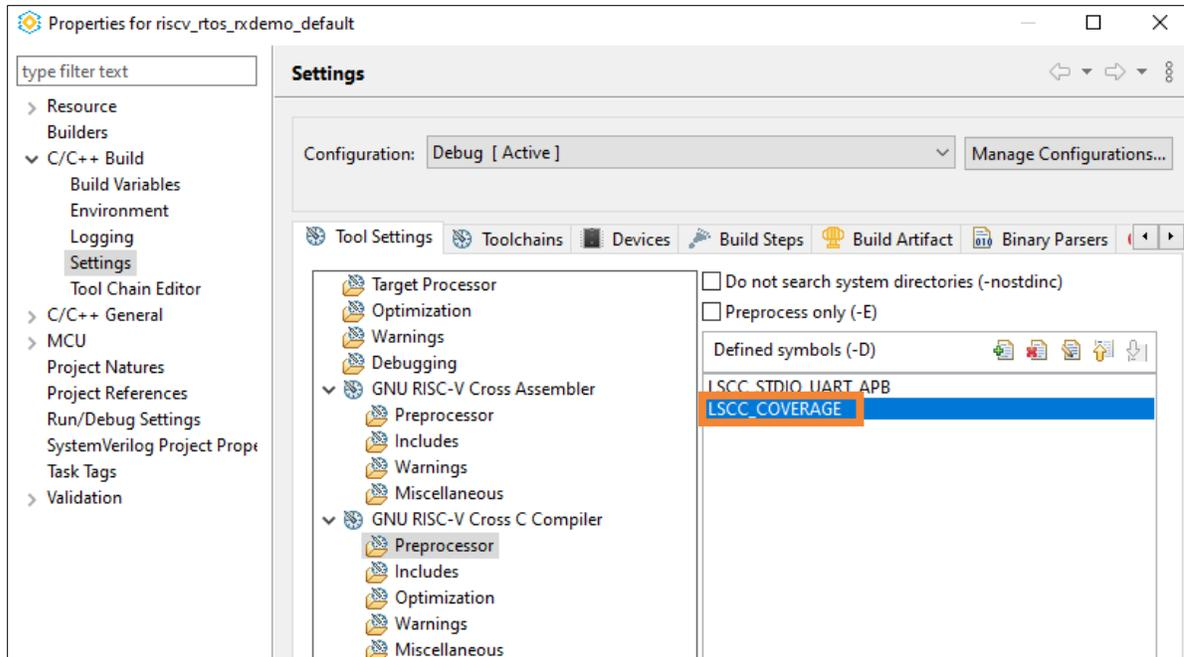

Figure 6.10. LSCC_COVERAGE Symbol
3. Select **GNU RISC-V Cross C Compiler > Preprocessor**. Add the defined symbol, LSCV_COVERAGE (Figure 6.10).